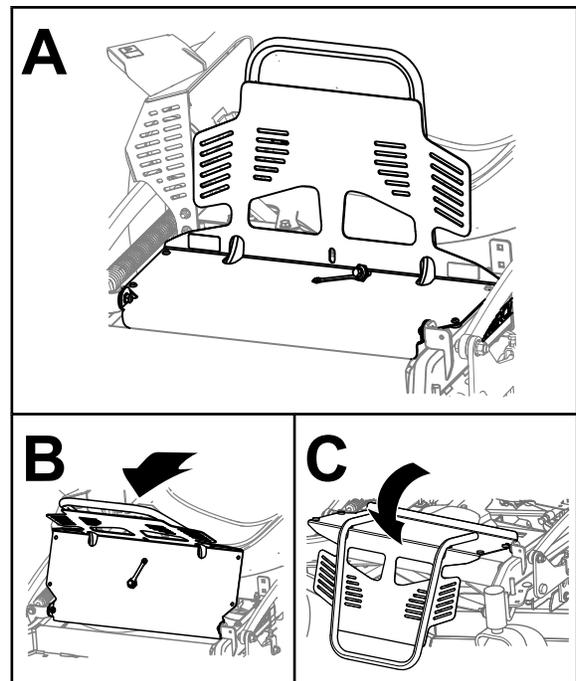

Figure 2
2. Rotate the engine guard forward as shown in Figure 2.